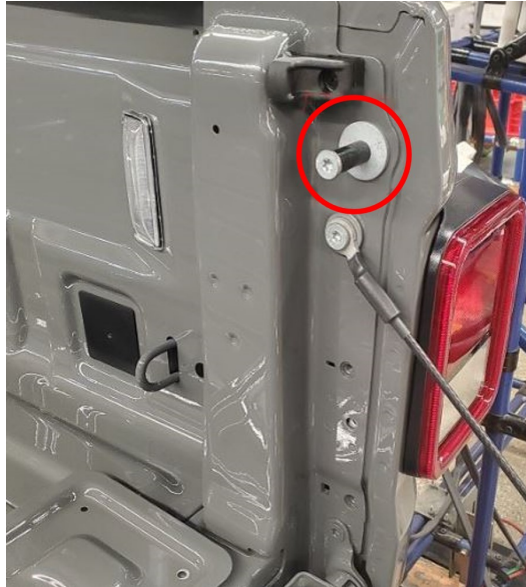

Fig. 2
2. Using a T45 Torx bit, loosen and adjust the striker post(s) (Fig. 2) as required and even tailgate gap(s).
3. Tighten the tailgate striker post(s) (Fig. 2) to 20 N·m (15 ft. lbs.).
4. Did adjusting the striker post(s) (Fig. 2) achieve an even right side tailgate gap to the cargo box?